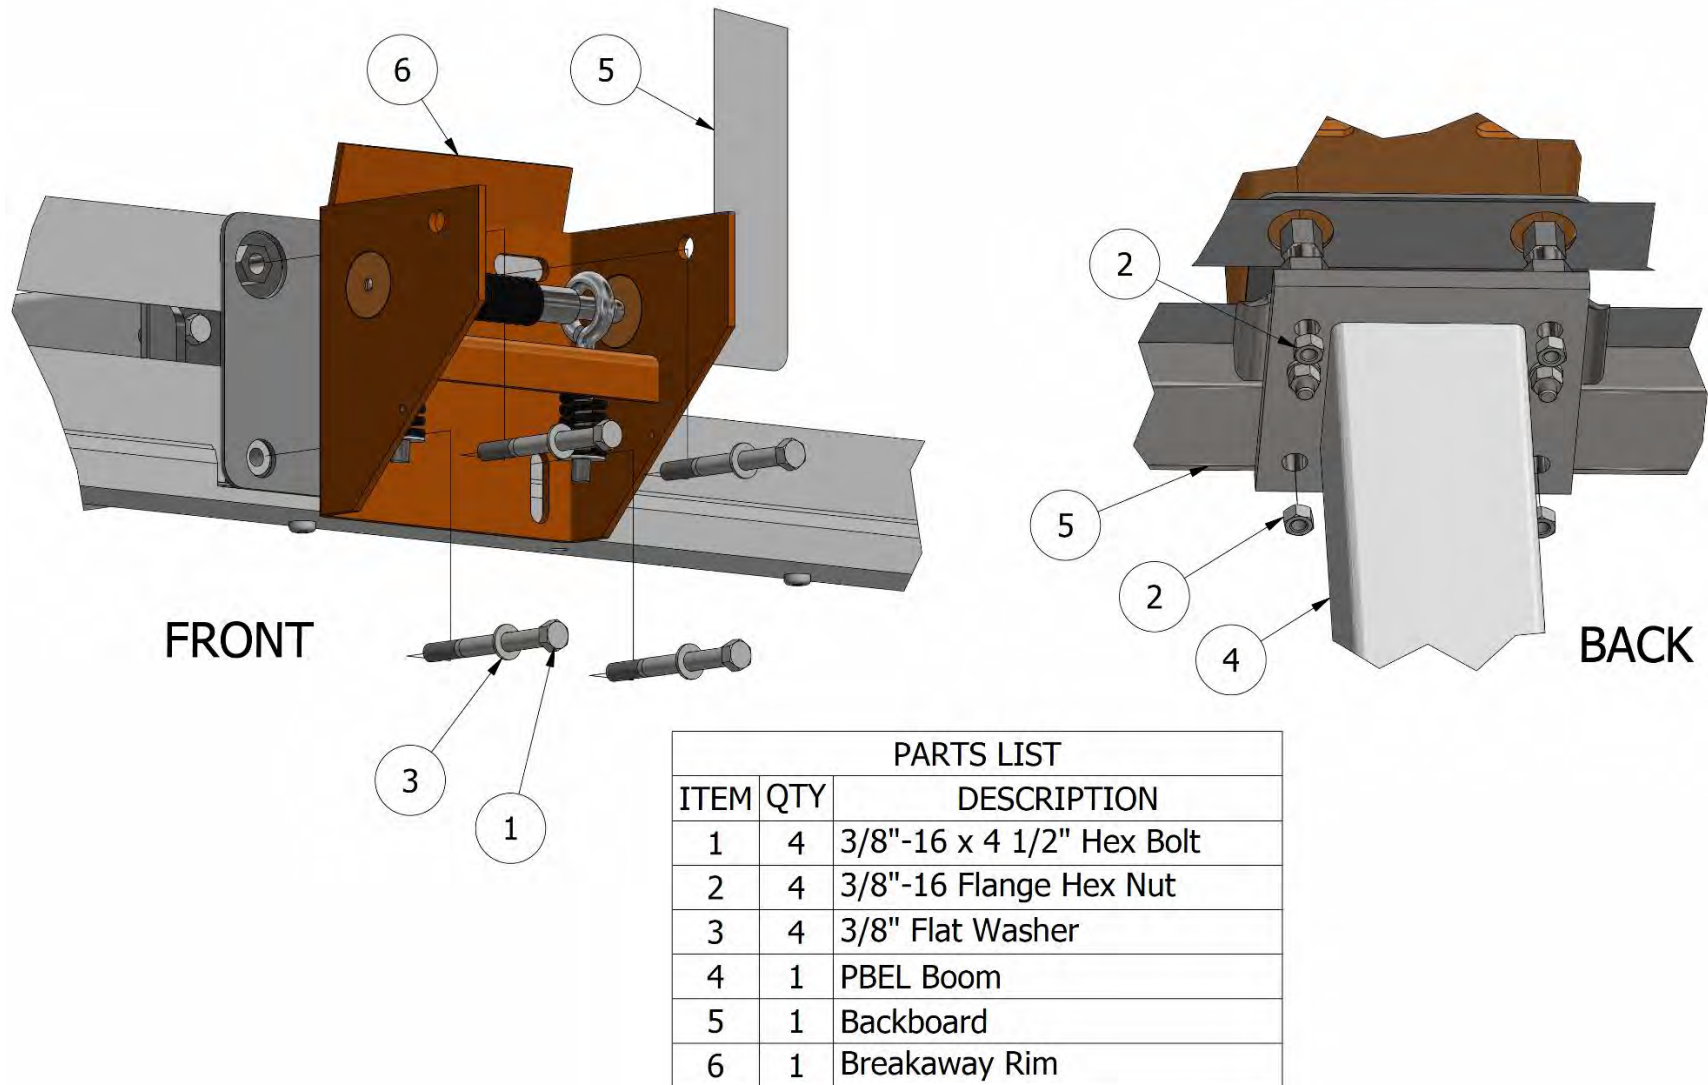

Figure 7-7: Attach rim to board.
10. Fasten rim to board using the 3/8"-16 x 4 1/2" hex bolts (4X), 3/8" flat washers (4X) and 3/8" flanged nuts (4X) as shown in Figure 7-7. Ensure that rim is level, side-to-side4, before fully tightening nuts.